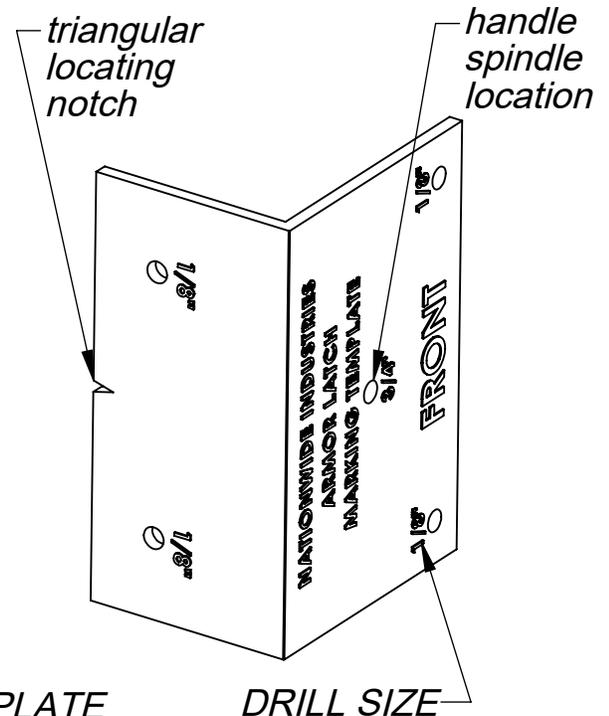

**FIG. 1a**
- Mark the SIDE of the gate frame with a horizontal line at the desired height of the latch handle. Use of a level is recommended. (Fig. 1a)